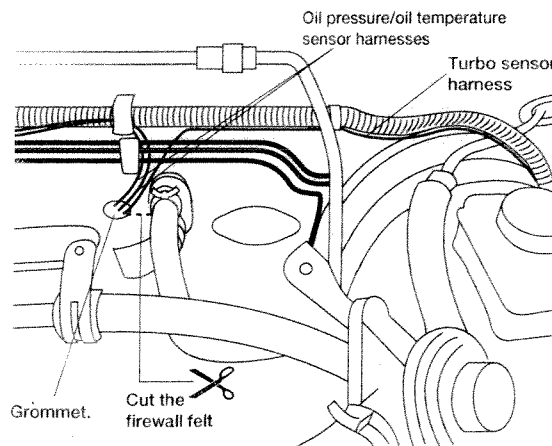
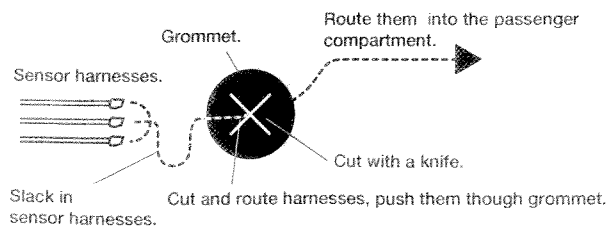

Figure 4-2
Figure 4-3
2. Cut the firewall felt away in the engine compartment at the position indicated in Figure 4-2 and remove the grommet. Slit the grommet using a knife. Put the two oil sensor harnesses along with the turbo sensor harness through the slit. Temporarily tape them together. Poke a hole in the noise insulation of the vehicle and route them into the passenger compartment. Use a suitable fishing tool. Reinstall the grommet. (Figure 4-3)